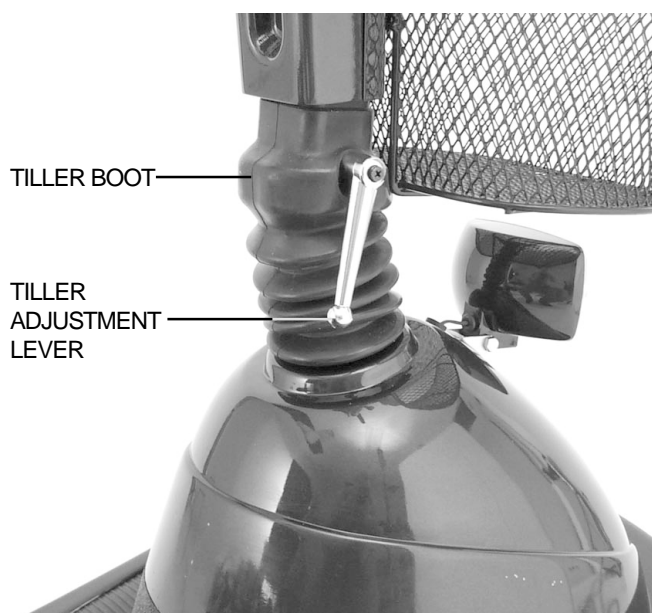

Figure 16. Tiller Angle Adjustment
1. Turn the tiller adjustment lever anticlockwise until it is loose. If the tiller adjustment lever comes in contact with the tiller basket, pull it outward, turn it clockwise, and release it. Continue to loosen until you are able to move the tiller. See figure 16.